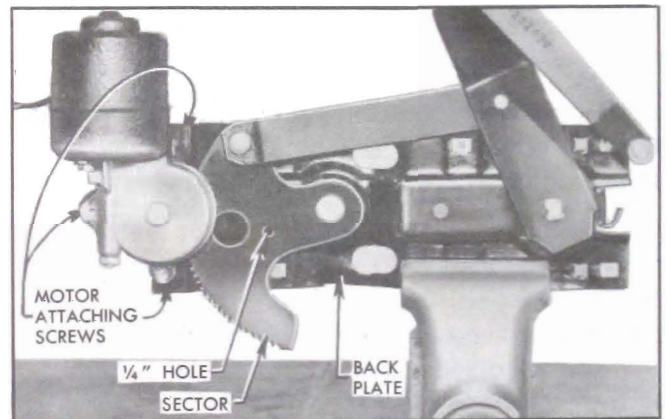

Figure 13-227—Rear Door Window Electric Motor
1. Remove electric window regulator assembly from door and clamp securely in a vise, as shown in figure 13-227.
2. Drill a $\frac{1}{4}$ " hole through sector and backplate at location indicated in figure 13-227.